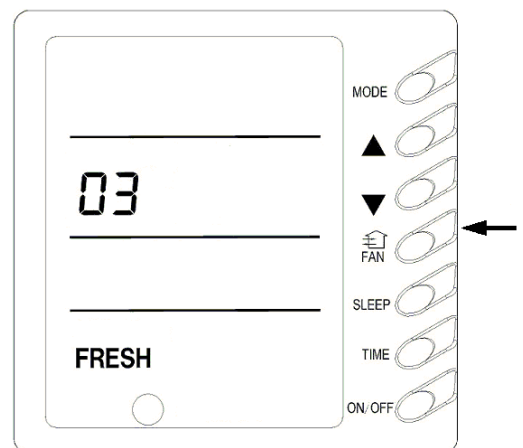

Fig.14
7) Fresh Air Valve Setting (Fig.14)